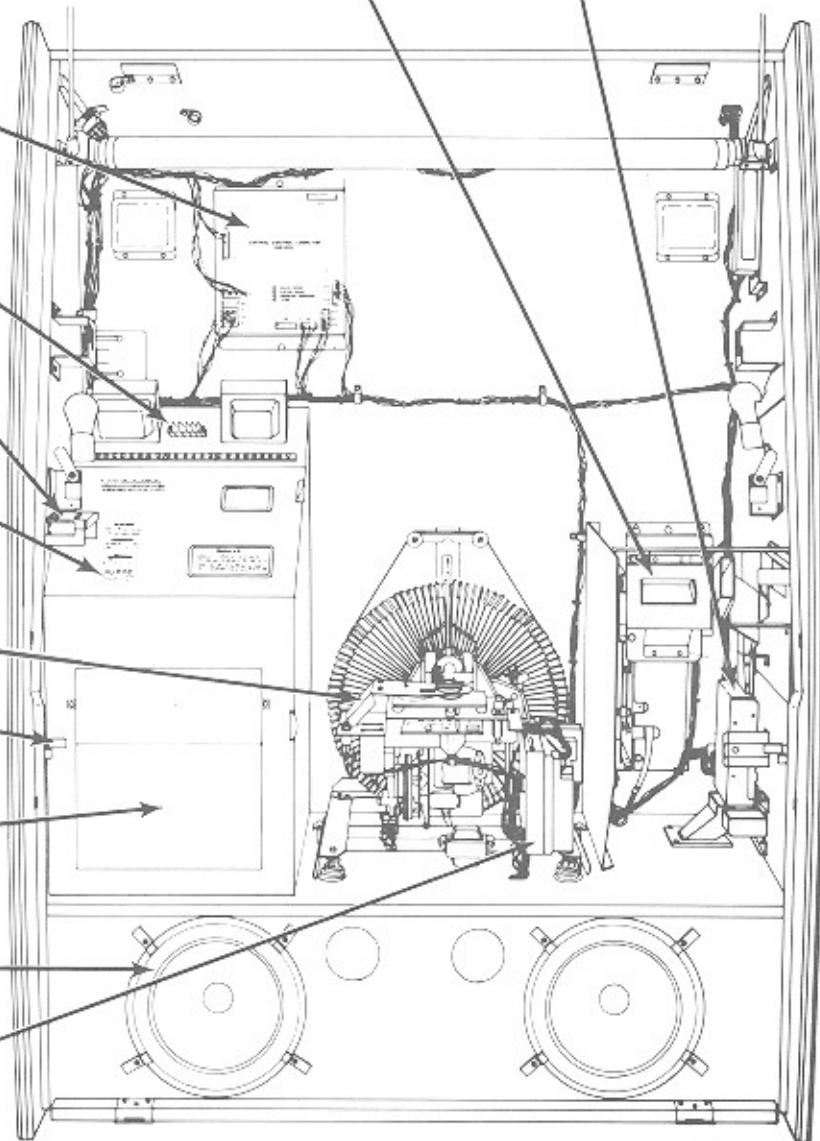

Figure 1-1. CD-100 Major Components
2. Open the front door by pressing down on both front door latches (*see figure 1-1*).
Figure 1-1 shows the major CD-100 Phonograph components. Take a minute to familiarize yourself with these components.